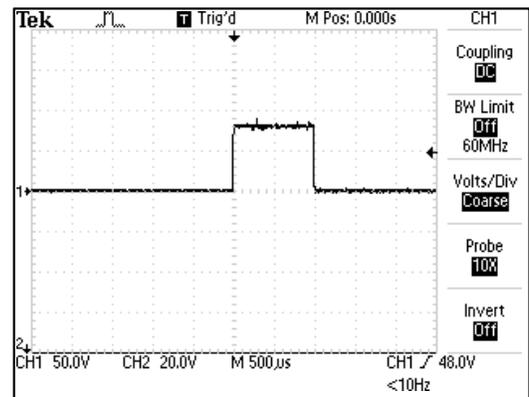

Figure 5.14
M. MONOPHASIC RECTANGULAR PULSED (Figure 5.14)